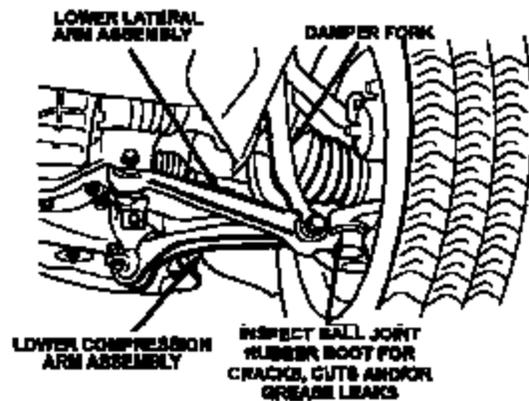

Figure 1 – Left Side Shown
3. Inspect the LEFT ball joint rubber boot on the lower lateral arm. Using a light, look for cracks, cuts and/or other damage by pushing the boot with your fingers (Figure 1). The boot is damaged if there is evidence of grease leakage. If necessary, use a clean cloth or cotton swab as an aid to determine if grease is present.